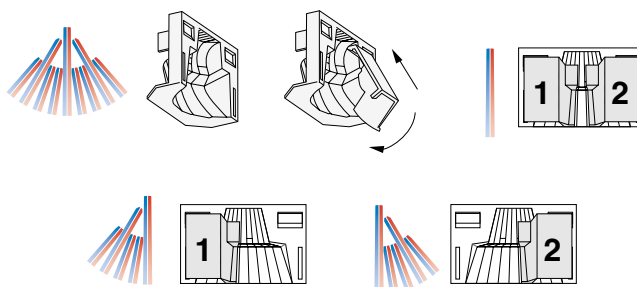

Figure 4. Plastic masks
- Use one or both of the plastic masks provided to mask off large areas of coverage as shown in Figure 4.